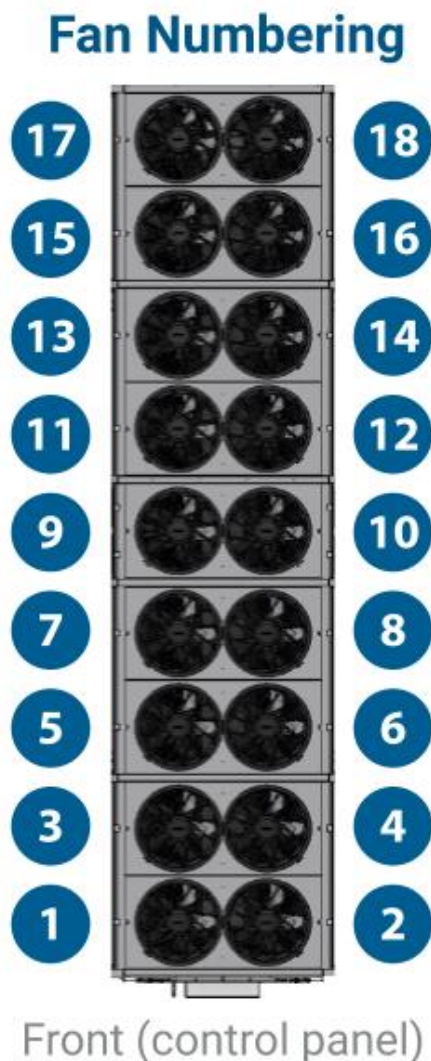

Figure 81. Fan Numbering Plan View
3. Use the dropdown menu titled “Select Fan to Replace” to select the correct fan number. Refer to **Figure 81** to identify the correct fan number.